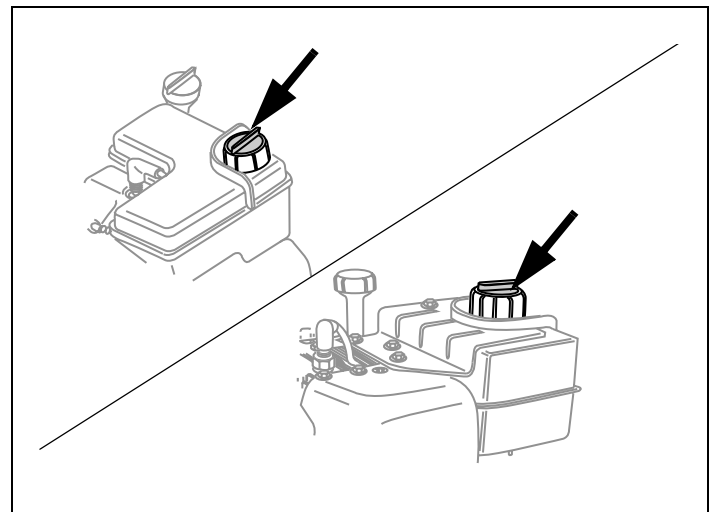

Figure 14. Possible Fuel Fill Cap Location(s)
3. Clean area around fuel fill cap and remove fuel fill cap. See Figure 14.